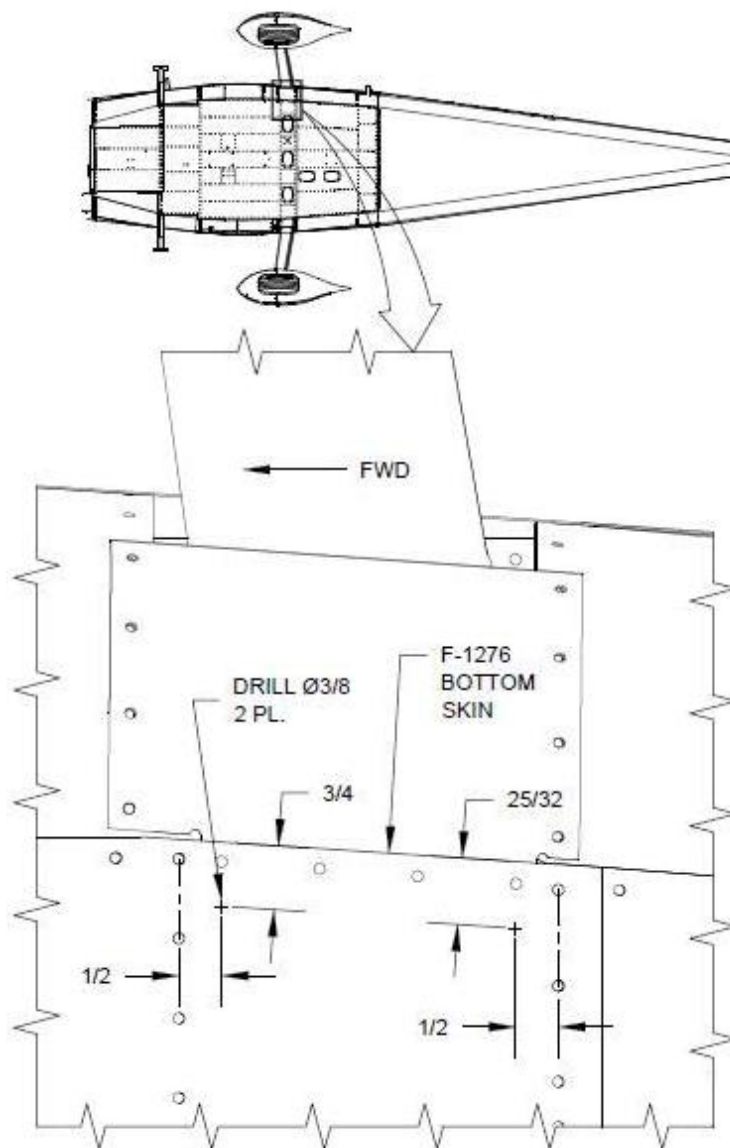

FIGURE 3: DRIFT AND SOCKET ACCESS HOLES
Step 14: Use a Step-Drill to drill 3/8 in. [9.5 mm] diameter holes in the F-1276 Bottom Skin to allow for insertion of a drift (for seating the bolt hardware) or a socket extension before the socket itself is attached. Refer to Figure 3. This will permit torque to be applied to the head of the U-1202 attach bolts.